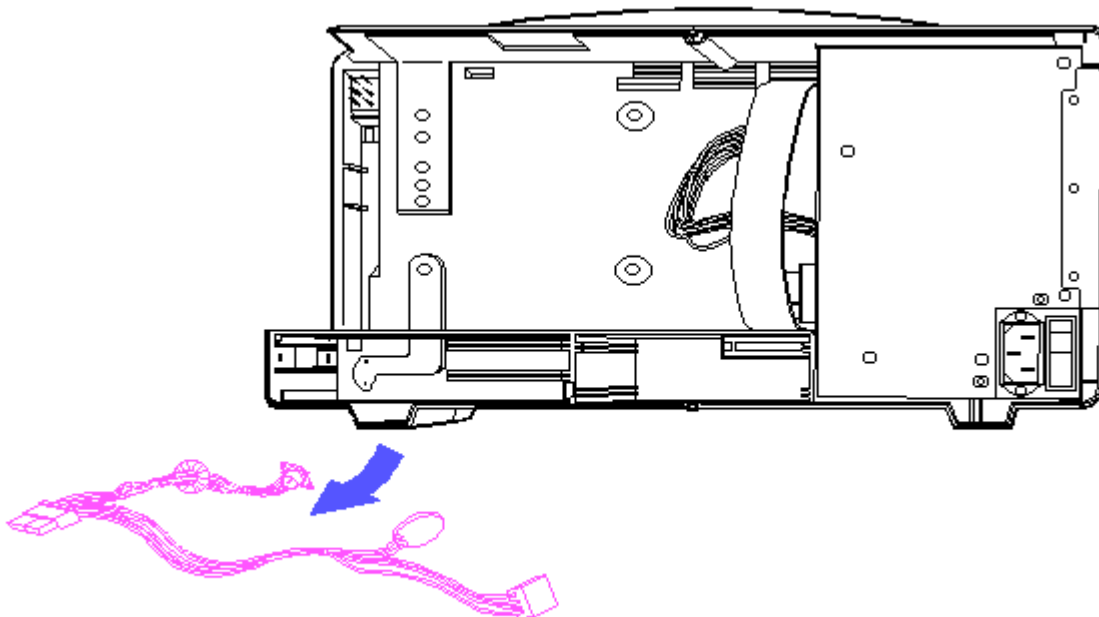

Figure 8-65. Removing the LED/Speaker and Keyboard Cables
15. Remove the LED/speaker cable and keyboard cable from the options compartment (Figure 8-65).